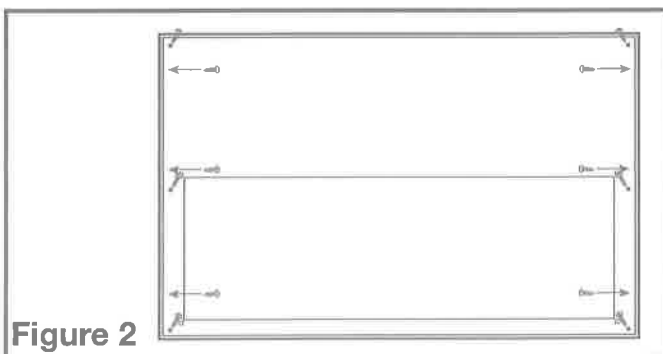

Figure 2
1. Secure the liner to the cabinet frame or custom canopy using three screws on each end of the liner and 3 screws on each side of the top of the liner (Figure 2).